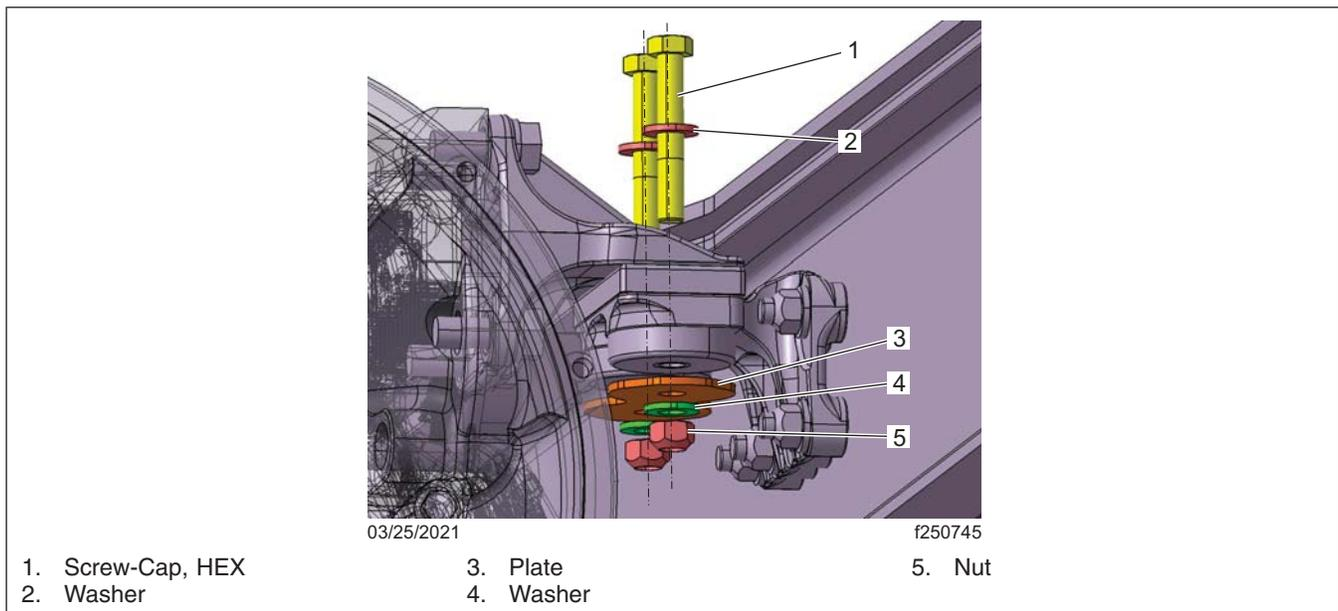

Fig. 33, Nodal Rear Engine Supports
5. Lower the back of the engine and install the isolator bolts. Torque to 203 lbf-ft (275 N-m), alternating between the front and rear bolts, to prevent binding. See Fig. 33.